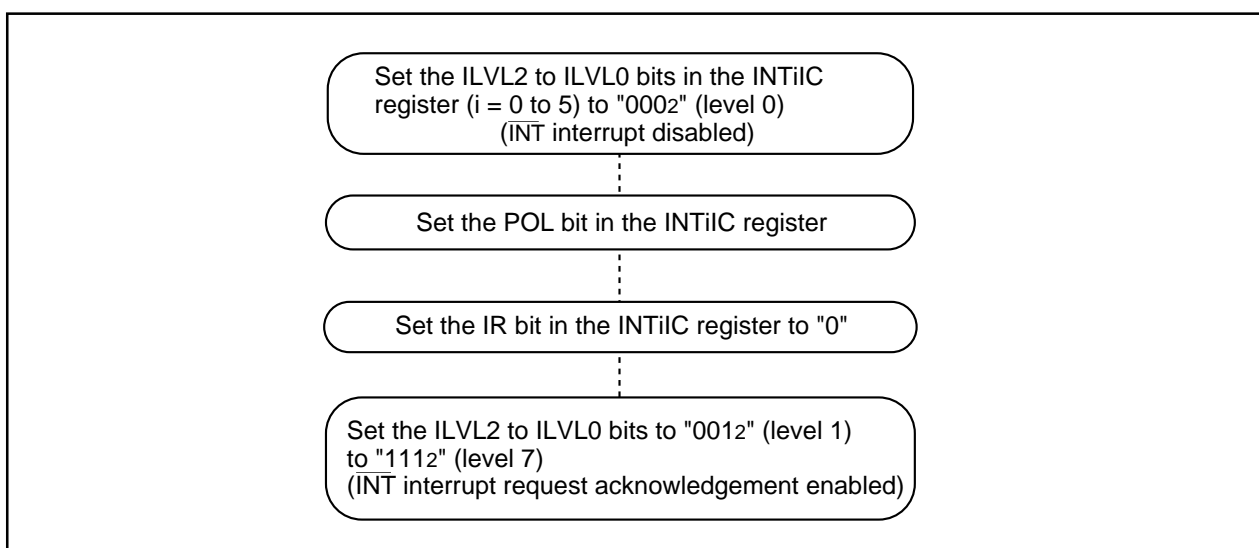

Figure 24.3 Switching Procedure for $\overline{\text{INT}}$ Interrupt
- The IR bit setting may change to "1" (interrupt requested) when switching the polarity of the $\overline{\text{INT}}0$ to $\overline{\text{INT}}5$ pins. Set the IR bit to "0" (no interrupt requested) after selecting the polarity. Figure 24.3 shows an example of the switching procedure for the $\overline{\text{INT}}$ interrupt.